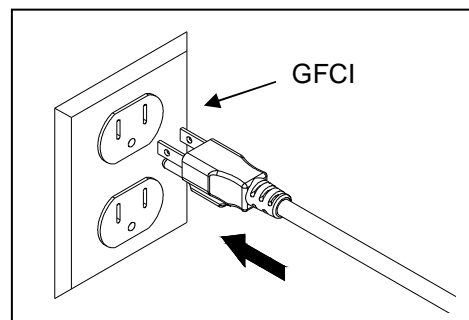

Fig. 12
12. Connect the UV clarifier plug into a properly grounded electrical outlet. Fig. 12